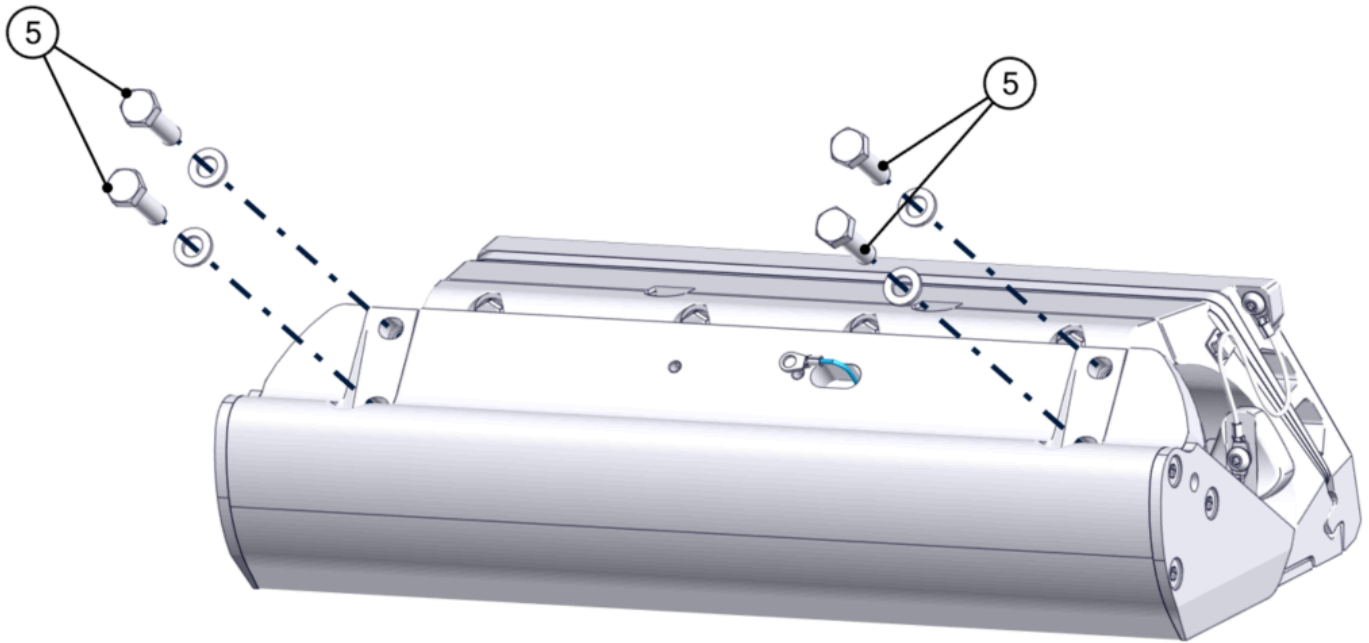

Figure 72 – Blade Installation
- Attach one terminal end of one bonding wire to the upper right corner of the Transom Plate using one (1) M2-0.7 x 6 mm Phillips Head Screw.
- Attach one terminal end of another bonding wire the front right-hand side of the Seal Plate using one (1) M2-0.7 x 6 mm Phillips Head Screw.
- Install the two (2) Actuator Plate Anodes using two M5-0.8 x 20 mm Button Head Screws. Slide the two free terminal ends of the bonding wires over the right-hand anode screw while inserting creating a continuous connection between the Transom Plate, Actuator Plate, and Seal Plate.
15. Install the Blade to the Actuator Arms using the four (4) M8-1.25x20 mm screws and their washers. Before torquing the bolts, push the Actuator Arms firmly down against the Blade supporting edge. Torque these four (4) bolts to 80 in-lbs (9.0 N-m) in an 'X' pattern (Figure 72 – Blade Installation).